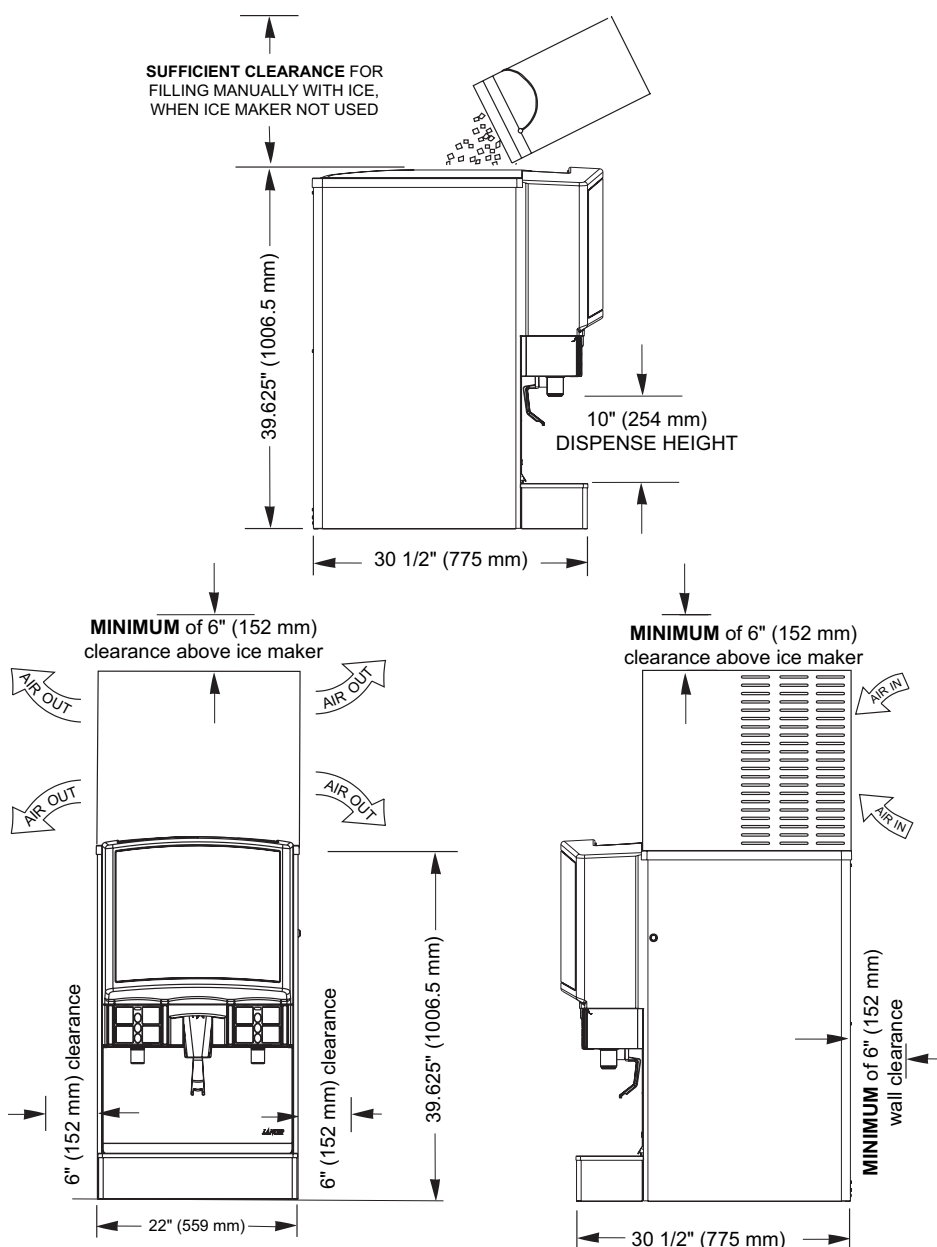

Figure 1
### 1.3 SELECTING COUNTER LOCATION (SEE FIGURE 1)
- C. ***Location must insure sufficient clearance*** on sides, top and back of unit is provided for ventilation and air circulation (see Figure 1).
- D. Additionally, if an ice maker is not top mounted on the unit, sufficient clearance should be provided [a minimum of 16 inches (40.6 cm) is recommended] to allow filling the unit with ice from a five (5) gallon (19 liter) container (see Figure 1).